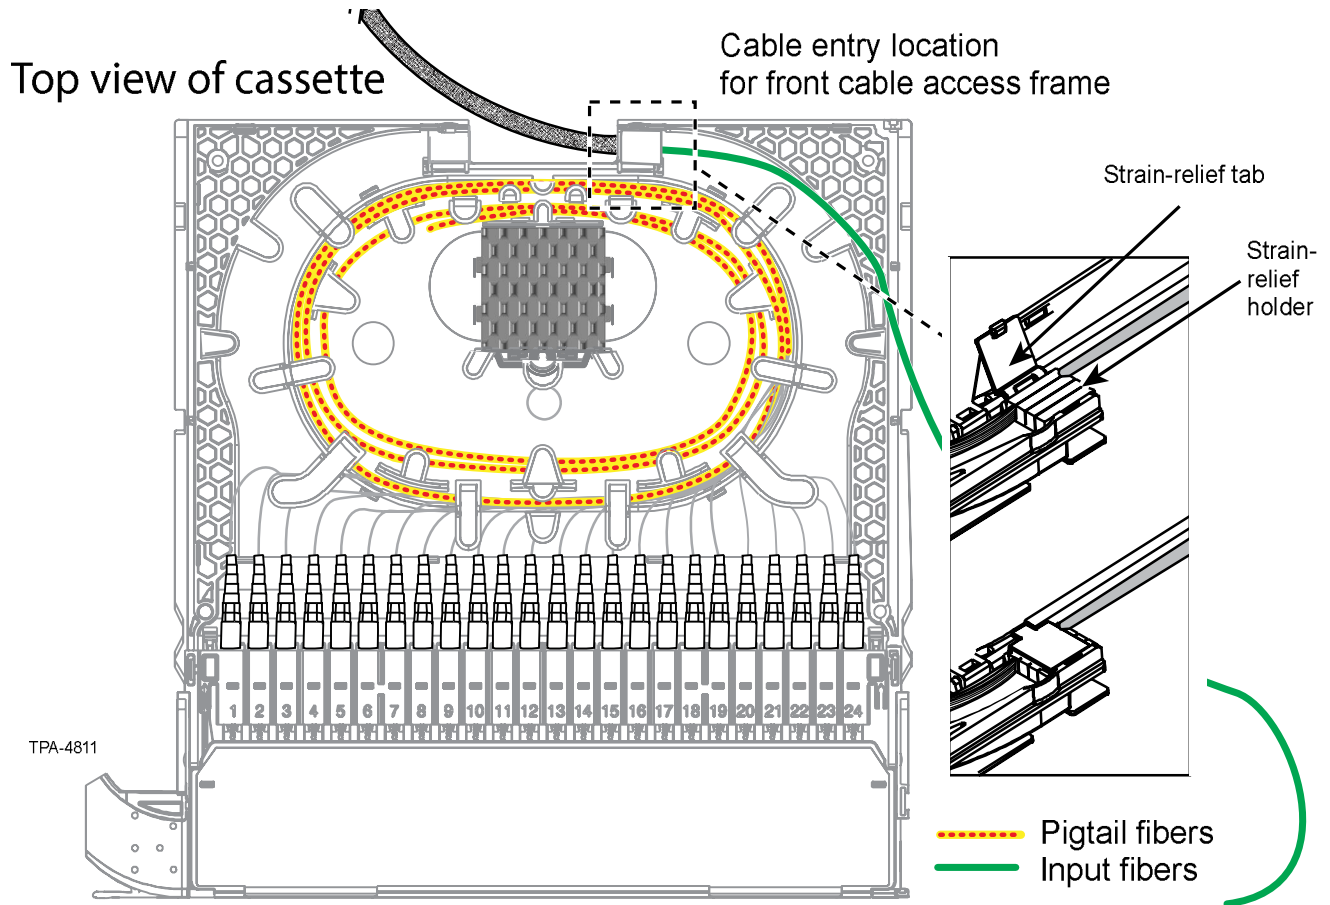

Figure 52
Step 7: Secure the end of the transport tube holding the input fibers in the strain-relief holder (Figure 52). Press the strain-relief tab closed to secure the fibers.